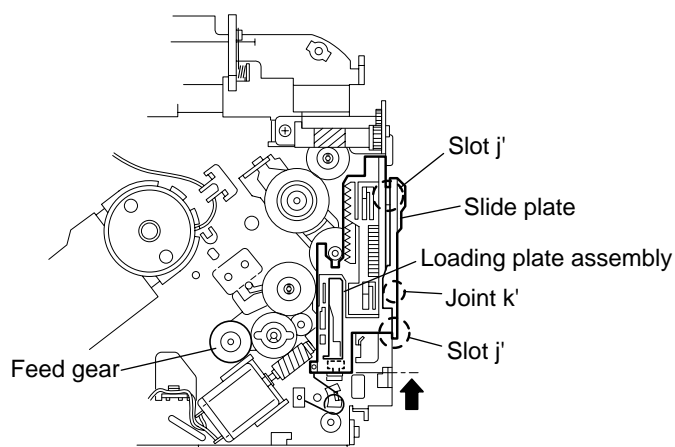

Fig.33
■ Removing the gears (See Fig.33 to 36)
4. Pull out the loading gear (2) and remove the change lock lever.
5. Remove the E-washer and the washer attaching the changer gear (2).
6. The changer gear (2), the changer gear spring and the adjusting washer come off.
7. Remove the loading gear (1).